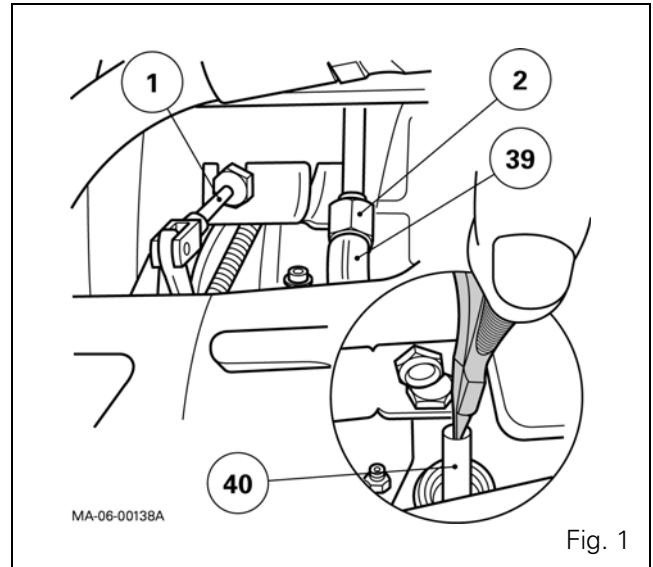

Fig. 1
- If access to the union (39) is difficult on tractors fitted with 4-speed LSPTO, remove the control (1) (Fig. 1).